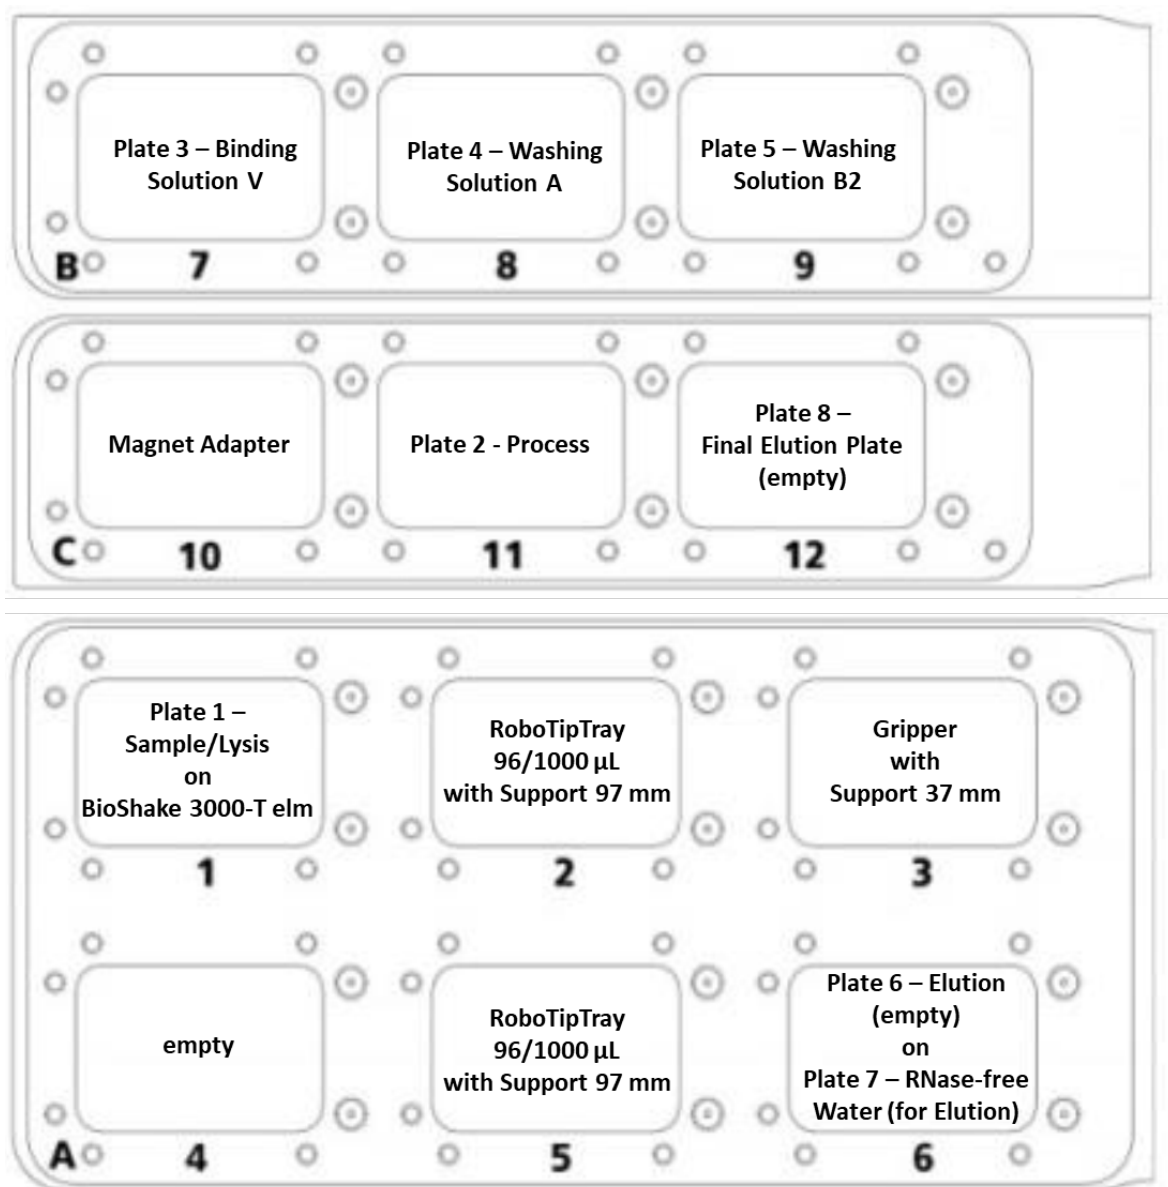

Figure 27: Deck layout for extraction from a 400 μ L sample.
1. Load all plates and accessories according to the scheme below (→ see Figure 27).